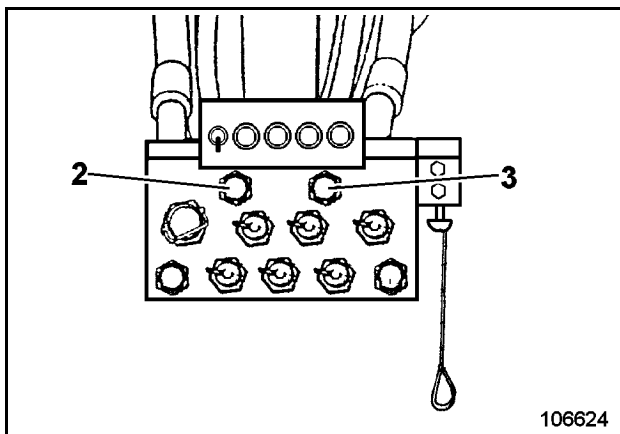

Fig. 3-25:
Fill cooling liquid through filler tube (1) or through express couplings (2 and 3, Fig. 3-25:) into the cooling system,
- express coupling (2) for the lefthand engine,
- express coupling (3) for the righthand engine.